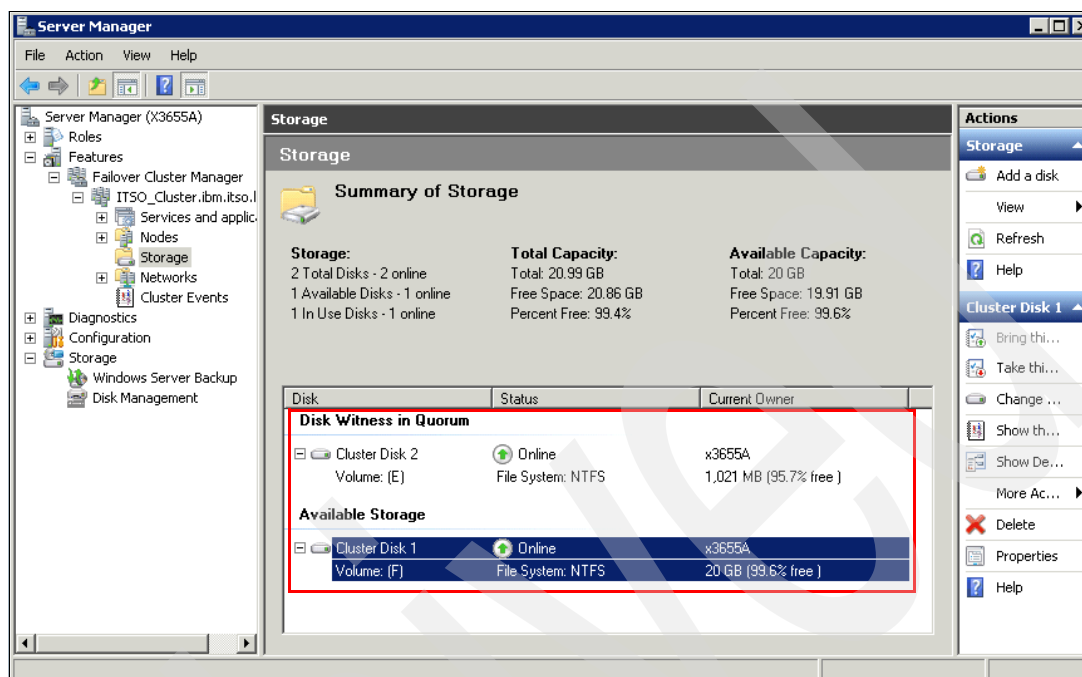

Figure 5-91 Failover Cluster Manager results
5. Validate the cluster by entering back into the Failover Cluster Manager as seen in (Figure 5-91).